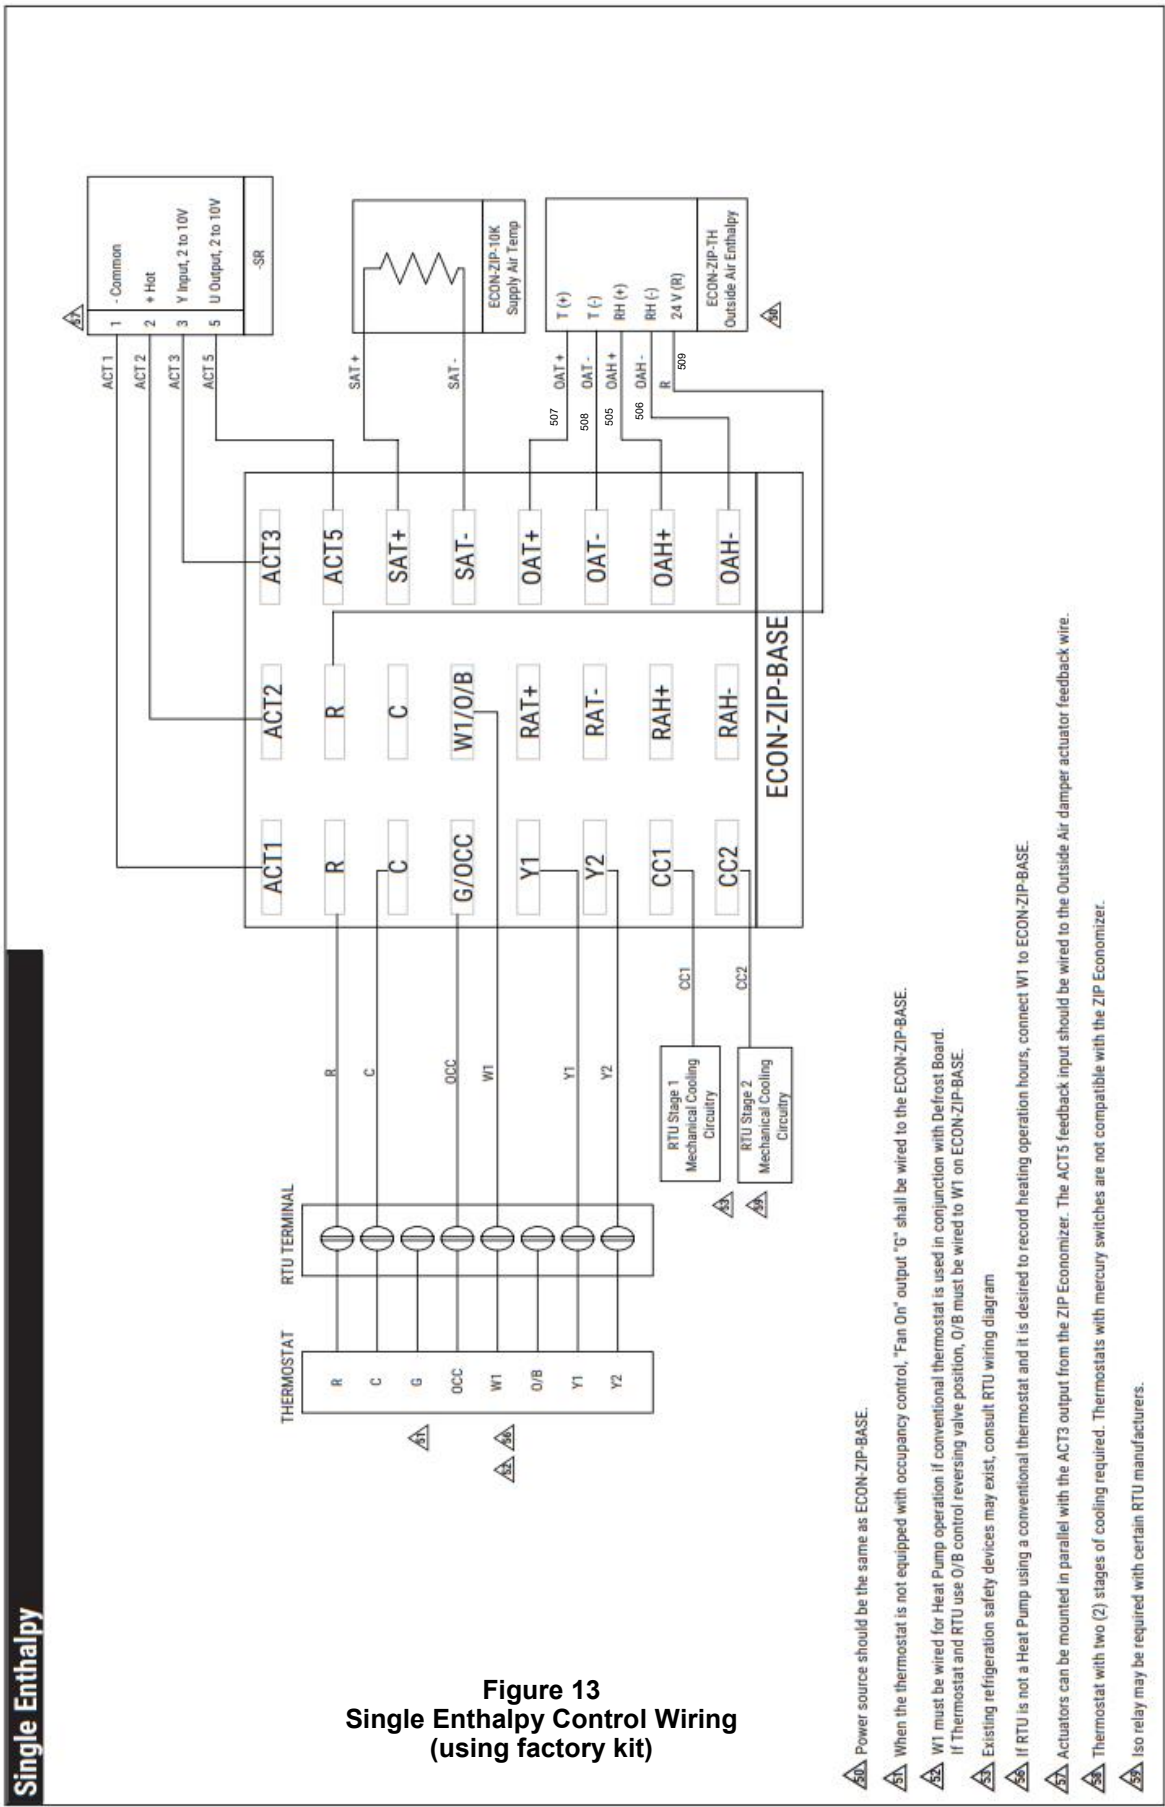

Figure 9
6. Install actuator—refer to typical actuator installation guidelines on pages 29-32. **NOTE:** Be sure to install actuator anti-rotation bracket shown in Figure 9.